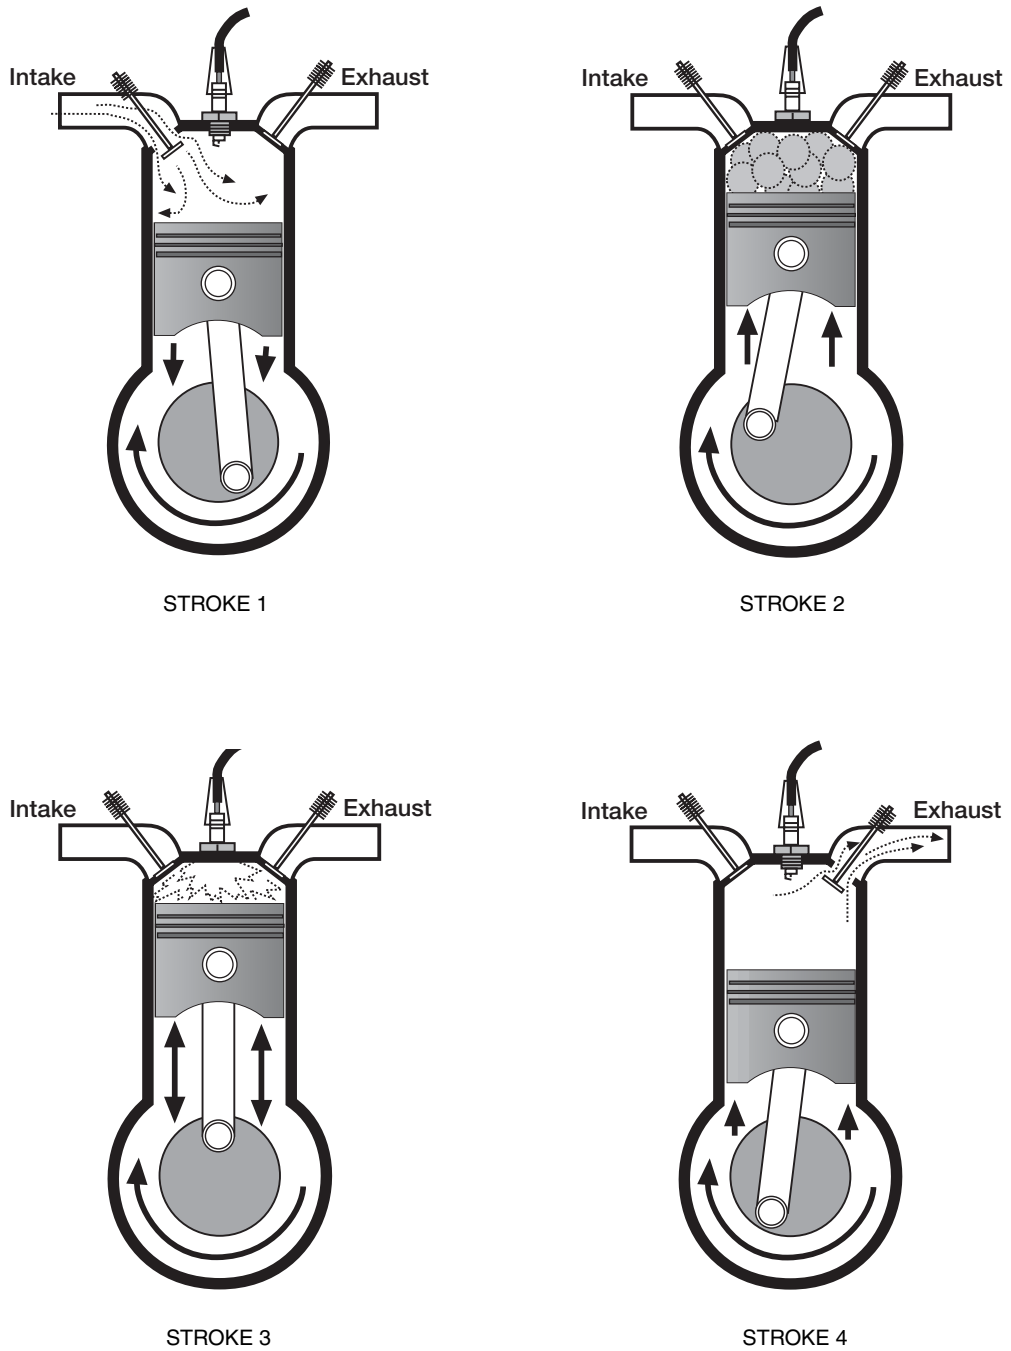

Figure 1-3. The four-stroke cycle illustrated. See text.
**The Four-Stroke.** It may help to think of an internal combustion engine as a pump of sorts. Let's take a look at Figure 1-3 to see how the four-stroke works: